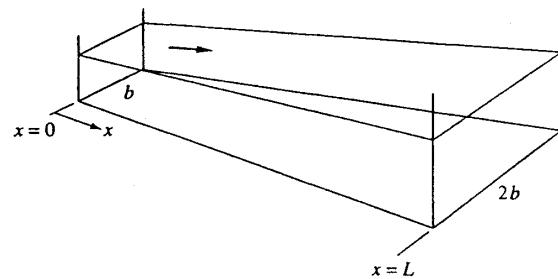

Fig. P10.106
**10.106** A rectangular channel with  $n = 0.018$  and a constant slope of 0.0025 increases its width linearly from  $b$  to  $2b$  over a distance  $L$ , as in Fig. P10.106. (a) Determine the variation  $y(x)$  along the channel if  $b = 4 \text{ m}$ ,  $L = 250 \text{ m}$ ,  $y(0) = 1.05 \text{ m}$ , and  $Q = 7 \text{ m}^3/\text{s}$ . (b) Then, if your computer program is working well, determine  $y(0)$  for which the exit flow will be exactly critical.